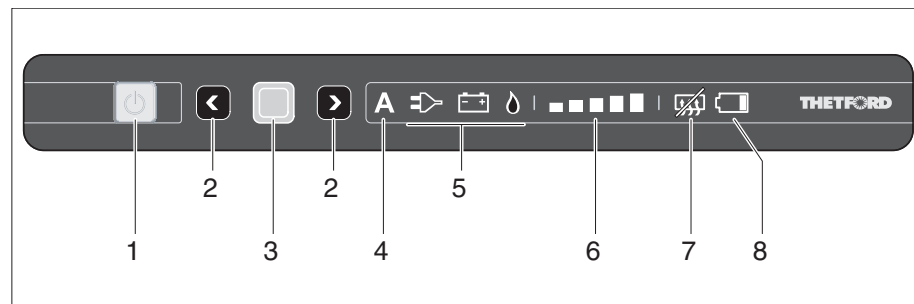

Fig. 337 Operating and display elements for the refrigerator (Thetford without SES)
- Press the button (Fig. 337,1).
- Press and hold the button (Fig. 337,1). All the lamps go out.
If automatic mode is selected, the automatic mode display (Fig. 337,4) and the best available source (Fig. 337,5) light up in the operating panel.
- Press and hold the confirmation button (Fig. 337,3). The operating mode symbols (Fig. 337,5) begin to flash.
- Use the selection buttons (Fig. 337,2) to select gas operation and apply the selection by using the confirmation button (Fig. 337,3).
- Use the selection buttons (Fig. 337,2) to select 230 V operation and apply the selection by using the confirmation button (Fig. 337,3).
- Use the selection buttons (Fig. 337,2) to select 12 V operation and apply the selection by using the confirmation button (Fig. 337,3).
- Press the confirmation button (Fig. 337,3) again. The cooling level display (Fig. 337,6) begins to flash.
- Use the selection buttons (Fig. 337,2) to select the desired cooling level and apply the selection by using the confirmation button (Fig. 337,3).